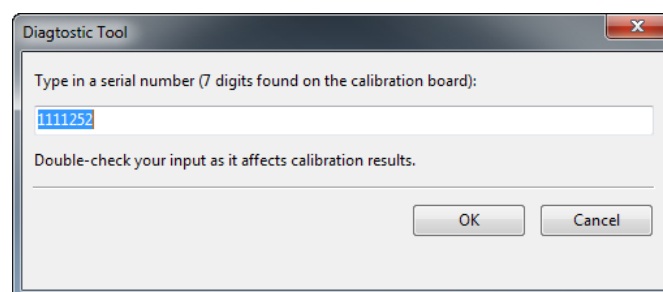
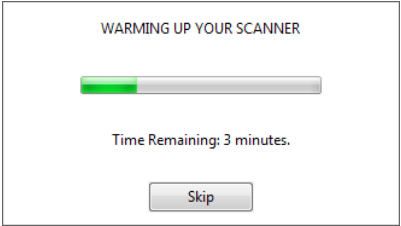

Figure 11.9: Entering serial number of calibration board.
Figure 11.10: Warming up the scanner.
6. Click *Start calibration*. A dialog box will open (see Figure 11.9); enter the serial number of your calibration rig (it appears on the board). If the scanner temperature is outside the optimal range—for example, you just connected the device to a power outlet—the tool will notify you of this condition (see Figure 11.10). We advise against clicking *Skip* and instead recommend waiting for the Artec Spider to reach its optimal temperature.